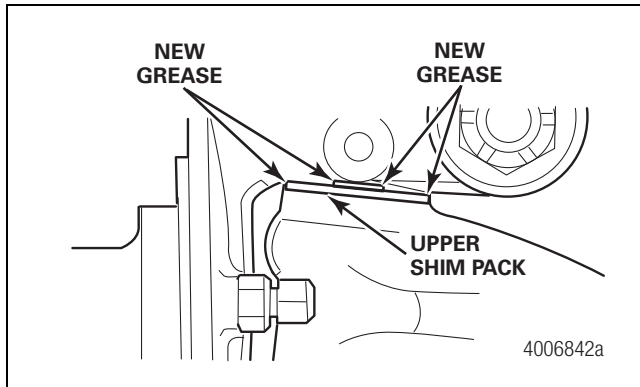

Figure 9.7
5. Apply lubricant into the top grease fitting until new grease purges from the upper shim pack. Figure 9.7.